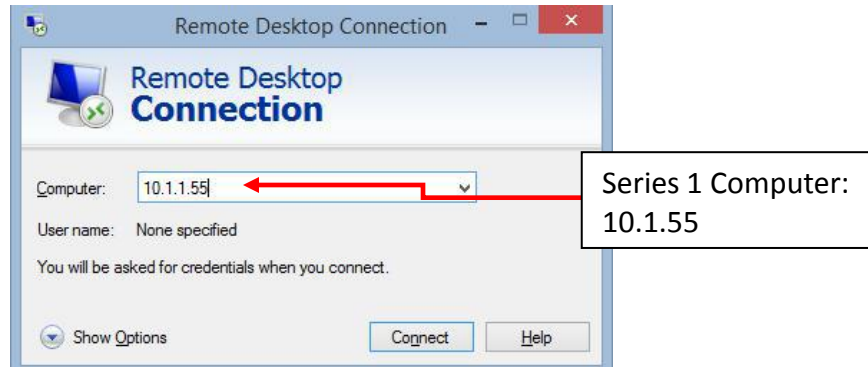
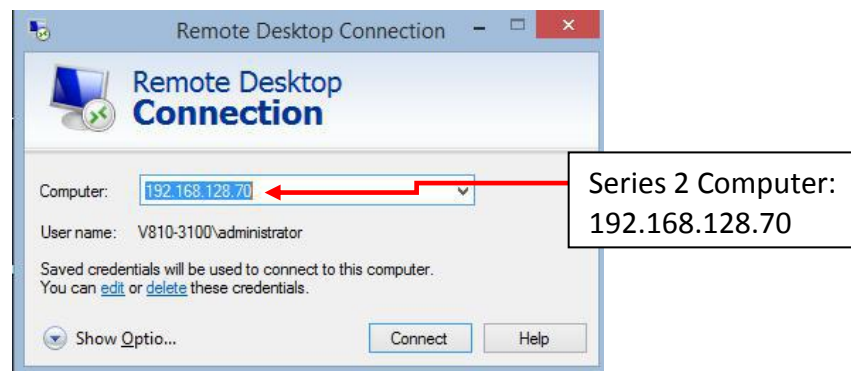

Figure 1 Series 1
Figure 2 Series 2
2. Login to the Atom PC and enter the computer name as shown below in Figure 1 (S1 Series) and Figure 2 (S2 Series)